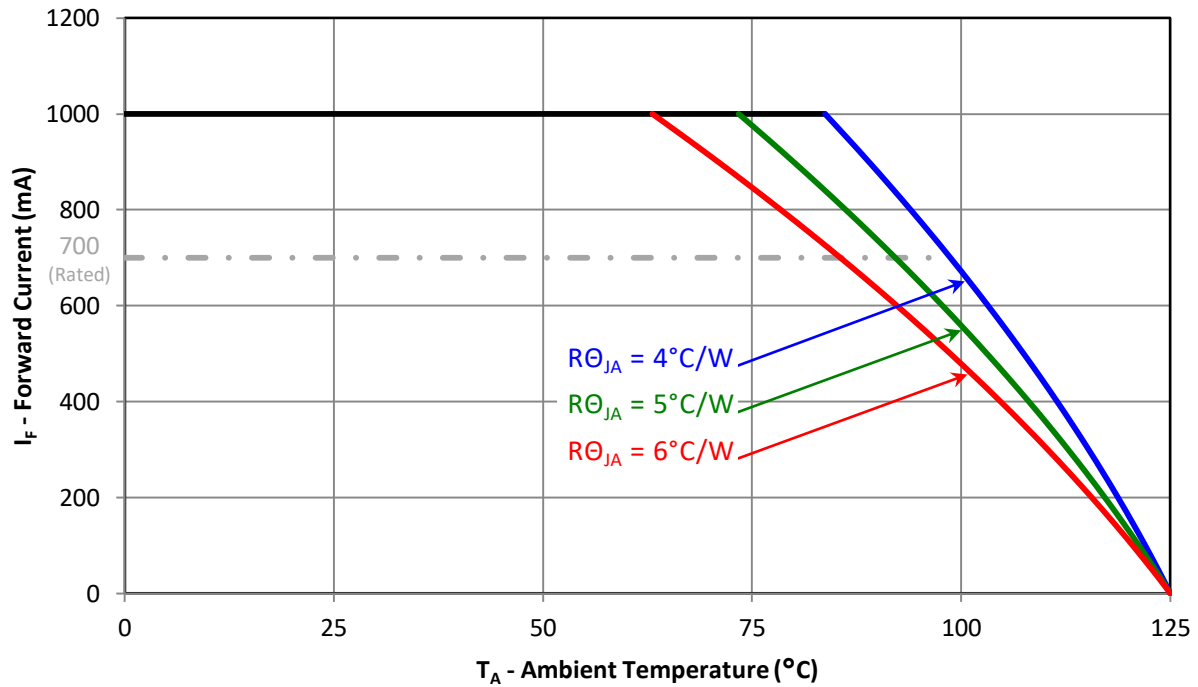

Figure 11: Maximum forward current vs. ambient temperature based on $T_{J(\text{MAX})} = 125^\circ\text{C}$.
- Maximum DC forward current (per die) is determined by the overall thermal resistance and ambient temperature. Follow the curves in Figure 11 for current derating.
Notes for Figure 11: